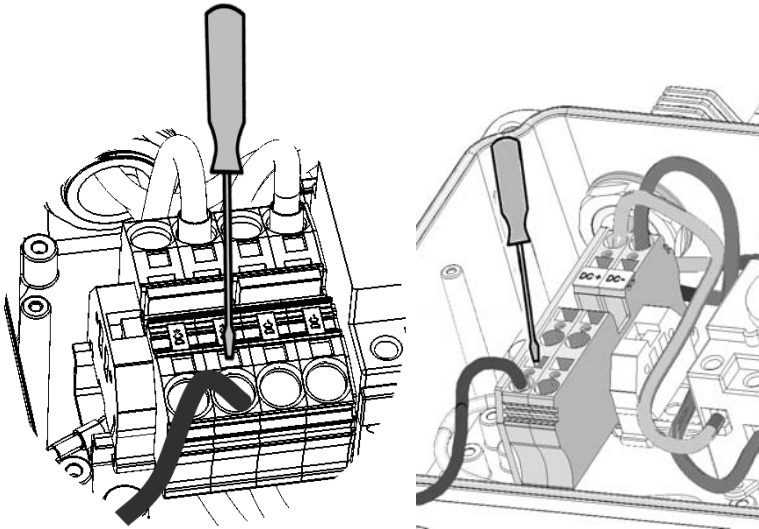

Figure 29: DC Spring-clamp terminal examples - single phase 10-11.4 kW inverter
- Insert the wire into the top opening (see *Figure 29*).
- Safety switch version *with terminal blocks on the DC side* - Connect the DC wires from the PV installation to the DC+ and DC- terminal blocks (see also *Figure 29*).